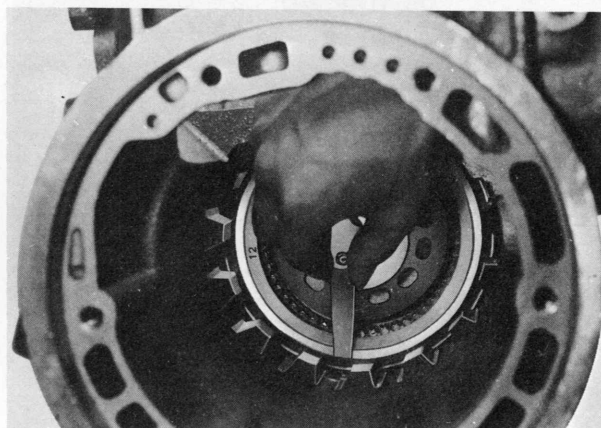

Fig. 7A-28 Measuring clearance
5. Check the operation of the low and reverse brake by blowing air into the oil hole as shown in Fig. 7A-26.